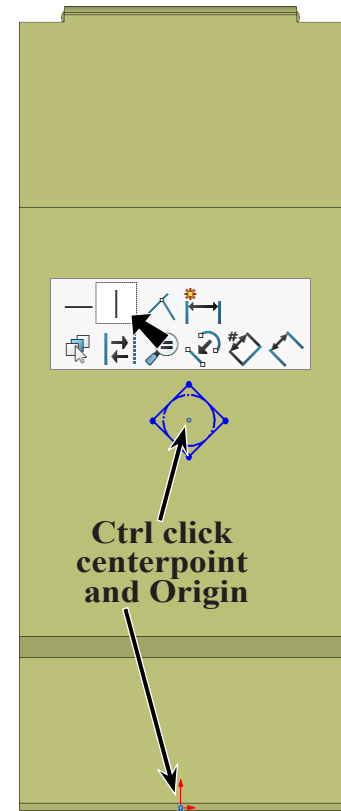

Fig. 30
Step 8. **Ctrl click centerpoint of polygon** and **Origin**  to select both. Release Ctrl key and click **Make Vertical**  on context toolbar, **Fig. 30**.